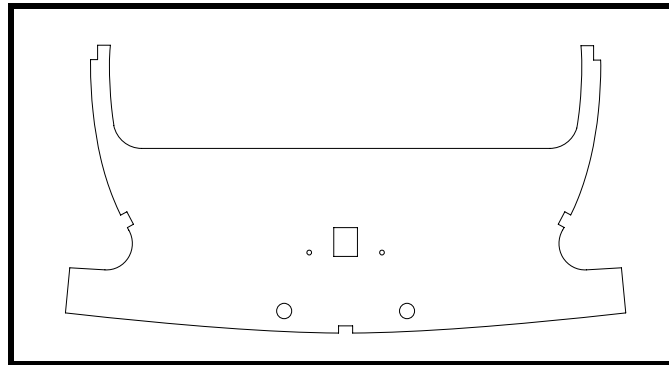

Figure 26
- ☐ Cut the five longeron cutouts in fuselage frame No. 6 as shown in Figure 26. As with the other fuselage frames, a master template should be used to locate the longeron cutouts. See Drawing No. 311.